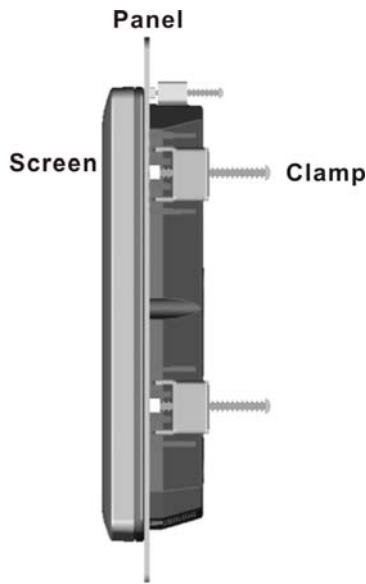

Figure 4-18: Tighten the Panel Mounting Clamp Screws
- Step 5:** Tighten the screws that pass through the panel mounting clamps until the plastic caps at the front of all the screws are firmly secured to the panel (Figure 4-18).